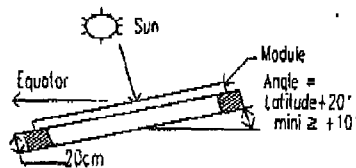

Figure 1
- Keep a space of 20cm at least under the module to enable the free air circulation which grants a good ventilation (figure 1).